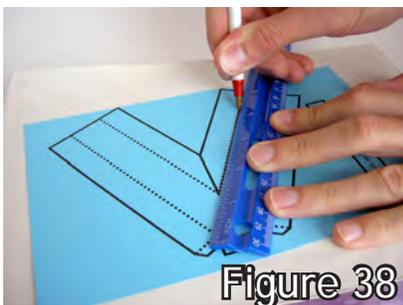

Figure 38
1. Trace along the dotted lines in a merge template with a ball point pen to score the paper. (fig. 38)